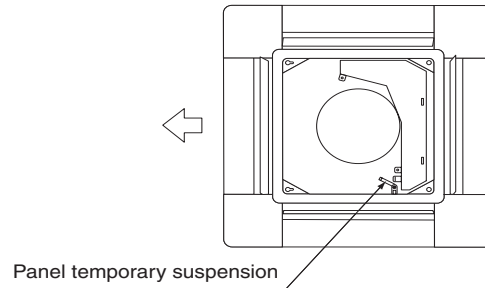

Fig. 4
3. Slide the panel in the direction of the arrow, passing the 2 attachment holes (the "U" shapes parts) over the temporarily tightened screws. **(Refer to Fig. 4)**